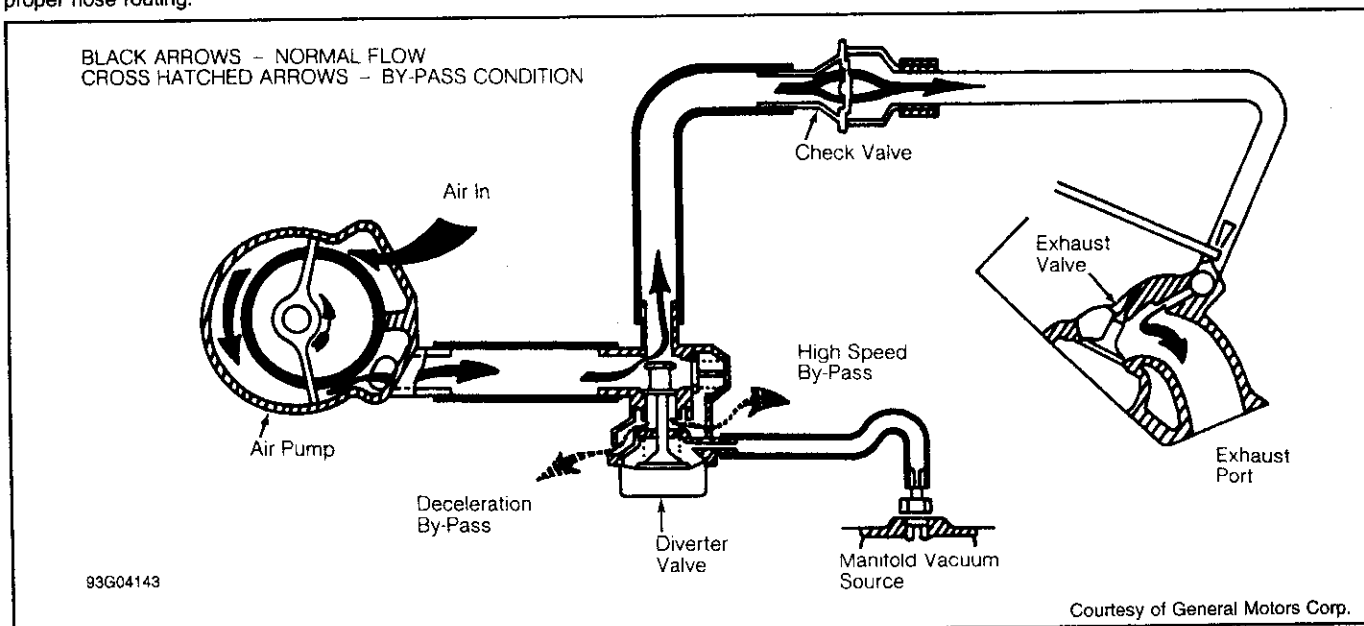

**Fig. 18: Typical Pulsed Secondary Air Injection System**
**Pulsed Secondary Air Injection (PAIR) System** – PAIR eliminates the need for an air pump and most of the associated hardware. Most systems consists of air delivery pipe(s), pulse valve(s) and check valve(s). The check valve prevents exhaust gases from entering the air injection system. See Fig. 18.